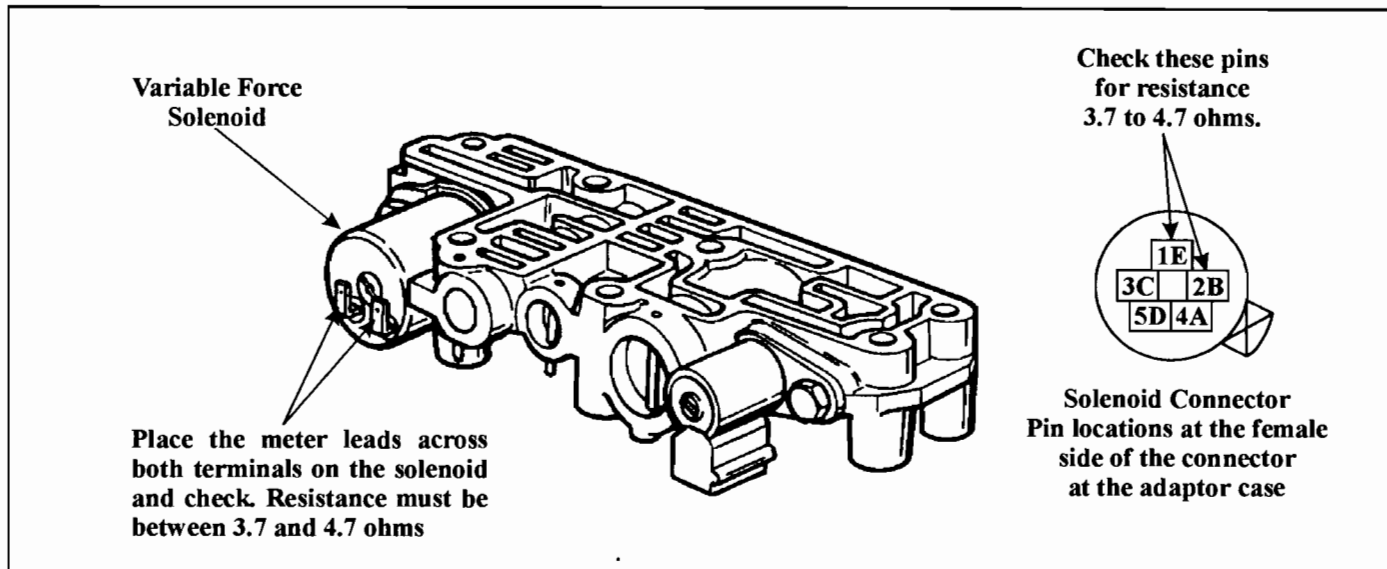

Figure 86
STEP 3: Turn the vehicle ignition switch to "OFF". Go to the TCM and disconnect the harness connector. Using an ohmmeter place the leads of the meter across pins 40 and 41 of the TCM harness connector going to the transmission (See Figures 86 and 87). Resistance should be between 3.7 and 4.7 ohms. **(If resistance is "OK", proceed with this step, if resistance is not "OK" go to step 4).** If resistance is "OK", check for a faulty TCM connector. If the TCM connector is "OK", replace the TCM clear the code and recheck.
- STEP 5:** If no continuity exists between pin 40 and ground and pin 41 and ground, disconnect the solenoid connector at the adaptor housing. Using a meter check for continuity between pin 40 at the TCM connector and pin 2B at the solenoid harness (See Figure 86 and 87). Continuity should exist. Next, check for continuity between pin 41 at the TCM connector and pin 1E at the solenoid harness. Continuity should exist. **(If continuity exists on both wires, go to step 6).** If continuity does not exist at both wires, fix the open in the proper wire, or run a new wire, clear the code and recheck.
- STEP 6:** With the solenoid harness still disconnected at the transmission, use an ohmmeter and check the resistance between pins 2B and 1E at the female side of the transmission case connector (See Figure 86). The resistance should be between 3.7 and 4.7 ohms. **(If the resistance is correct go to step 7).** If the resistance is not correct remove the oil pan on the adaptor housing and disconnect the wires from the solenoid (See Figure 86). Using a meter place the leads across both terminals and check for resistance. Resistance should be between 3.7 and 4.7 ohms. If resistance is not correct replace the solenoid, clear the code and recheck.
STEP 6: With the solenoid harness still disconnected at the transmission, use an ohmmeter and check the resistance between pins 2B and 1E at the female side of the transmission case connector. The resistance should be between 3.7 and 4.7 ohms. **(If the resistance is correct go to step 7).** If the resistance is not correct remove the oil pan on the adaptor housing and disconnect the wires from the solenoid (See Figure 86). Using a meter place the leads across both terminals and check for resistance Resistance should be between 3.76 and 4.7 ohms. If resistance is not correct replace the solenoid, clear the code and recheck.